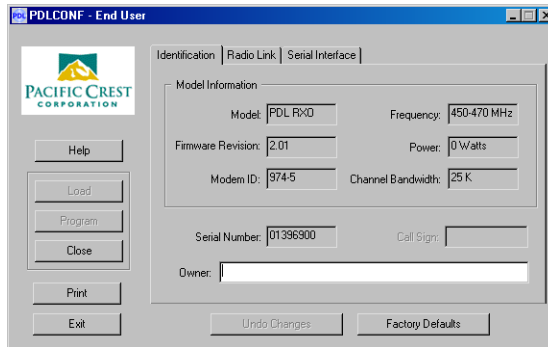

Figure 2-30. PDL Identification Tab
12. On the Identification tab, type Owner information (Figure 2-30).